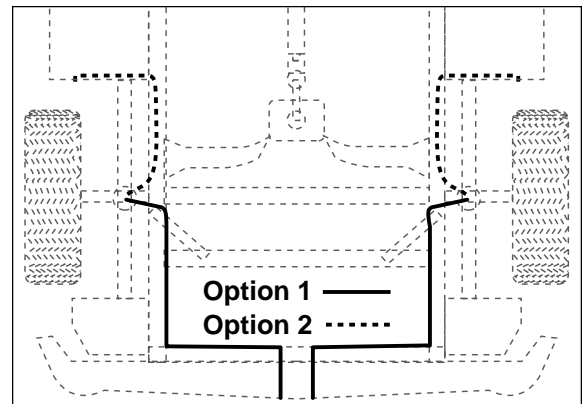

Figure 7
1. Choose a convenient location for mounting the inflation valves (Figure 7). Popular locations for the inflation valve are: wheel well flanges, license plate recess in bumper., under the gas cap access door, through license plate itself.
6. Route the air line along the frame to the air fitting on the air spring (Figure 7). Keep at least 6" of clearance between the air line and heat sources, such as the exhaust pipes, muffler, or catalytic converter. Avoid sharp bends and edges. Use the plastic tie straps (BB) to secure the air line to fixed, non-moving points along the chassis. Be sure that the tie straps are tight, but do not pinch the air line. Leave at least 2" of slack to allow for any movement that might pull on the air line.
7. On the exhaust side only, place the provided thermal sleeve (O) on the air line near the exhaust.